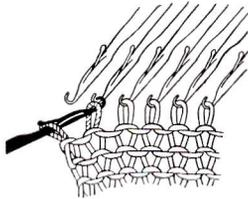

Fig. 66
- c. Take the next stitch off the needle onto latch tool, slide it through the last stitch. (See Fig.66)